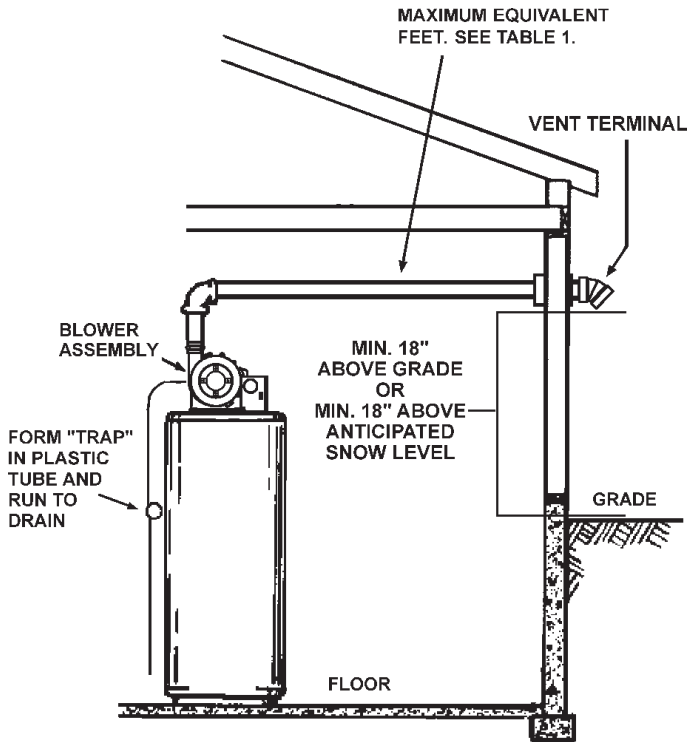

FIGURE 20
The first step is to determine where the vent pipe will terminate. See Figures 15, 20 and 21. The vent may terminate through a sidewall as shown in Figure 20 or through the roof as shown in Figure 21.
1. Vent Termination must extend a minimum of 18 inches above roof or 18 inches above the anticipated snow level to prevent blockage of the vent termination, as shown in Figures 20 and 21.
2. The venting system shall terminate at least four (4) feet from or one (1) foot above any gable, dormer or other roof structure with building interior access; i.e., vent, window, etc.
3. The venting system shall terminate three (3) feet above any forced air inlet located within ten feet.